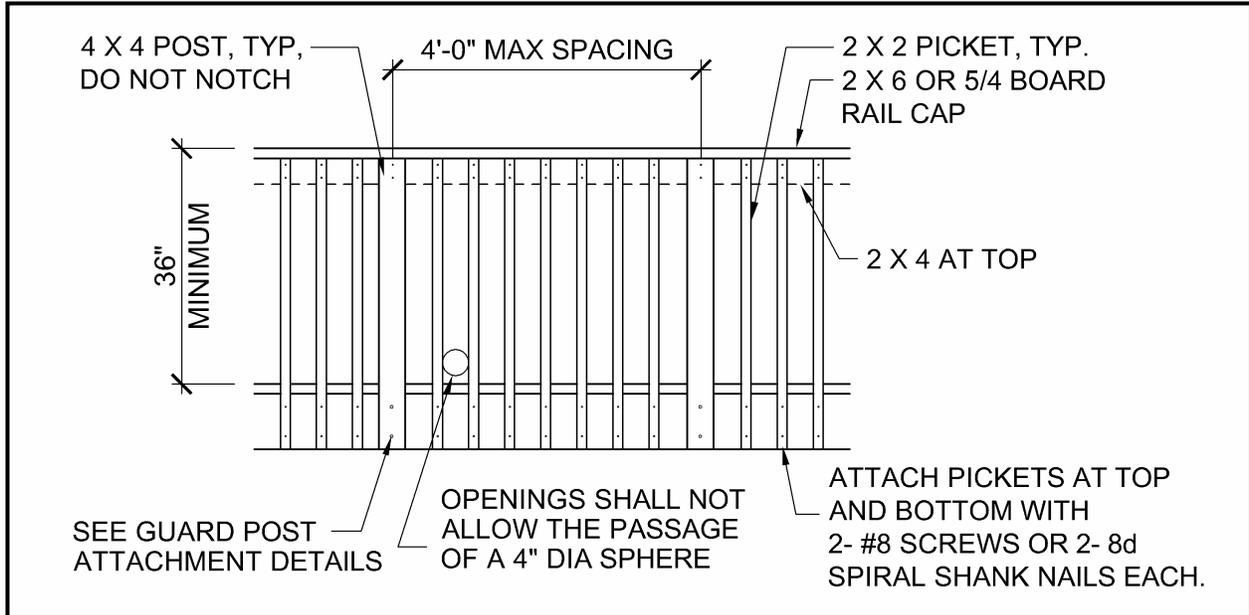
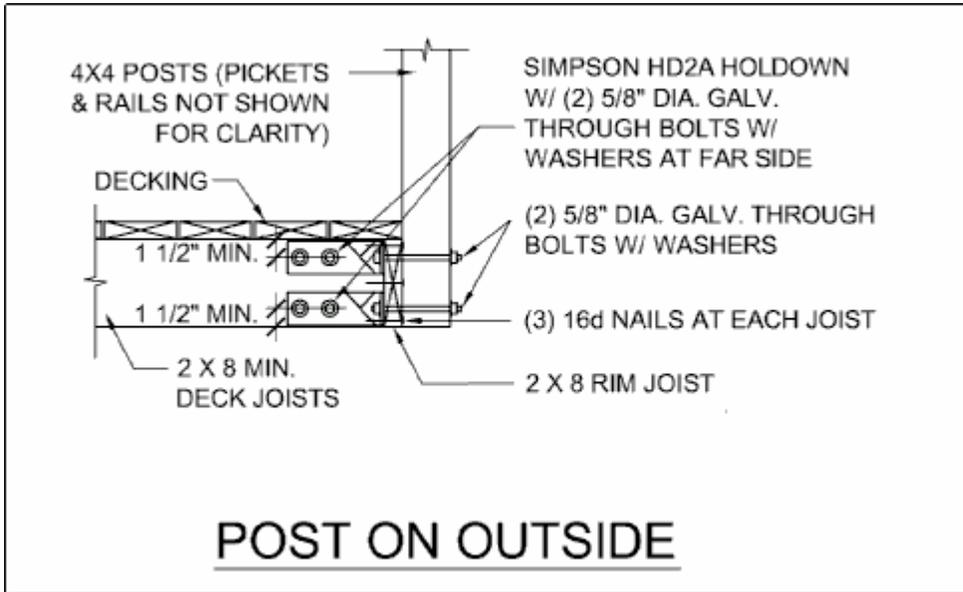

Figure 23 – Typical Guardrail Detail
Figure 24 – Guardrail Attachment Option 1
**Guardrail Post Attachment:** There are three options for guardrail attachment provided, you may choose one that suites your needs or provide a design for approval. Guardrail posts shall be spaced per Figure 23 and attached per Figures 24, 25 or 27 and 26, 29.
**Note: 2x8 minimum joists are required for Figures 24 and 25, and minimum 2x10 joists for Figure 27.**